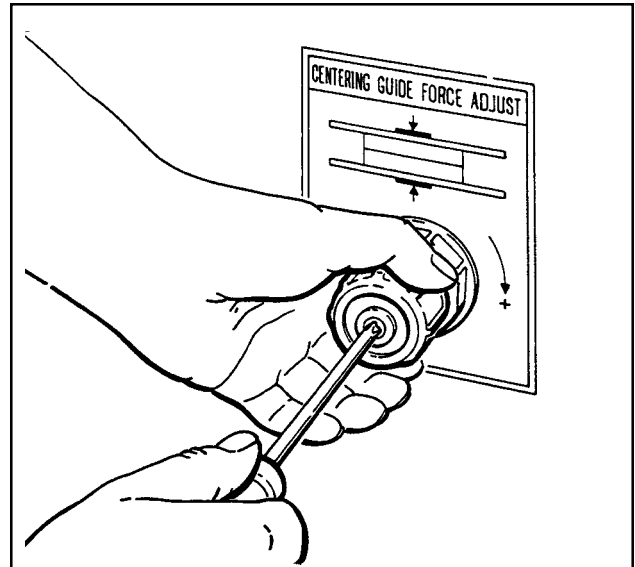

Figure 3-4– Air Regulator, Centering Guides
- ⑥ **Air Pressure Regulator, Centering Guide Force Adjustment – Figure 3-4**